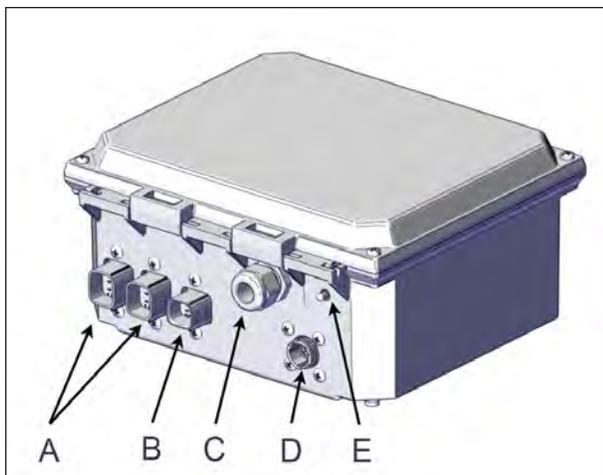

FIGURE 106: CONTROL BOX
3. Start by connecting the two motor jack harnesses to the AC control box, see Figure 106. Use the wires shown in Figure 7 in the Jack installation section. Put the exceeding wires as close to the spa as possible to hide and protect the wires.
4. Unpack the key switch and plug the harness into the AC control box, see item B in Figure 106.